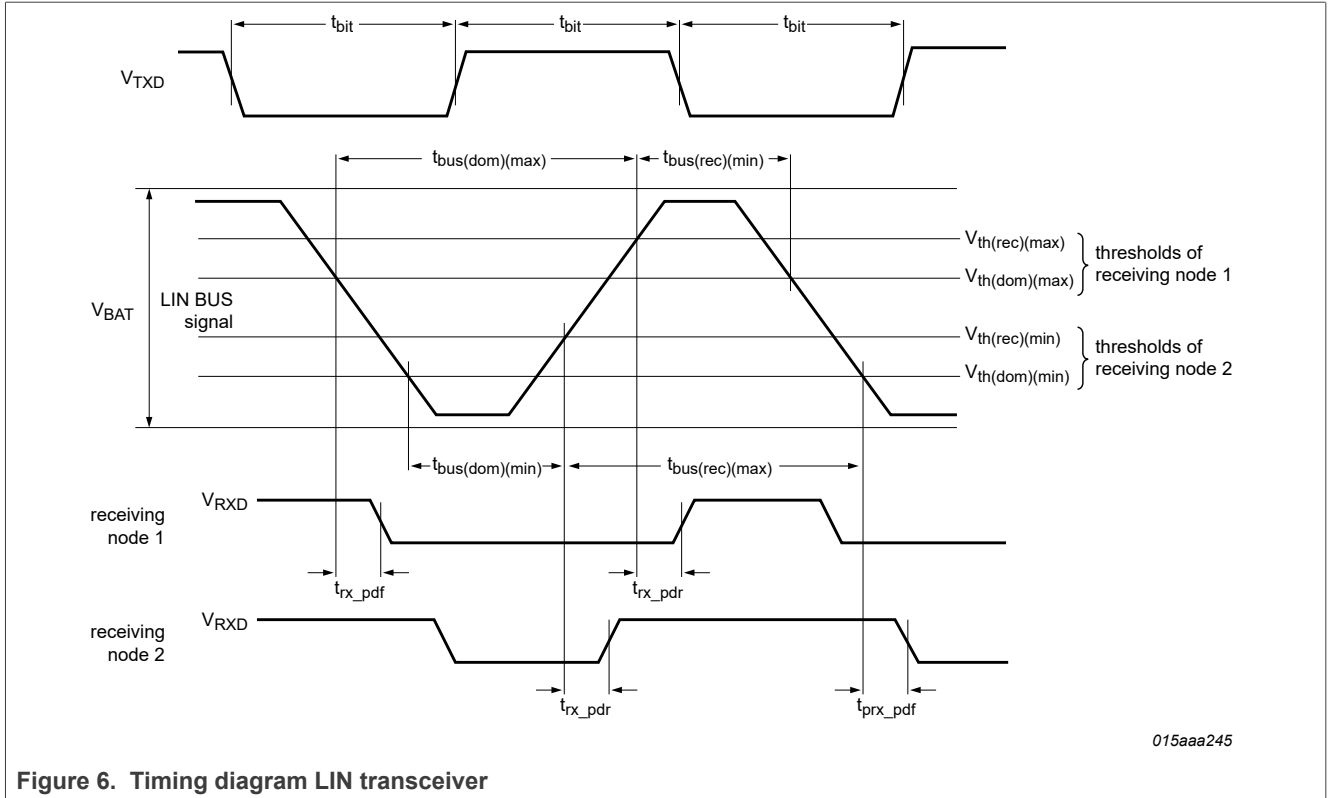

Figure 6. Timing diagram LIN transceiver
$V_{BAT} = 5.5\text{ V to }18\text{ V}$; $T_{vj} = -40\text{ °C to }+150\text{ °C}$; $R_{L(LIN-VBAT)} = 500\ \Omega$; typical values are given at $V_{BAT} = 12\text{ V}$, see Figure 6, unless otherwise specified; all voltages are defined with respect to ground.^[1]
$V_{BAT} = 5.5\text{ V to }18\text{ V}$; $T_{vj} = -40\text{ }^{\circ}\text{C to }+150\text{ }^{\circ}\text{C}$; $R_{L(LIN-VBAT)} = 500\ \Omega$; typical values are given at $V_{BAT} = 12\text{ V}$, see Figure 6, unless otherwise specified; all voltages are defined with respect to ground.^[1]
- [3] $\delta 1, \delta 3 = \frac{t_{bus(rec)(min)}}{2 \times t_{bit}}$. Variable $t_{bus(rec)(min)}$ is illustrated in the LIN timing diagram in Figure 6.
- [6] $\delta 2, \delta 4 = \frac{t_{bus(rec)(max)}}{2 \times t_{bit}}$. Variable $t_{bus(rec)(max)}$ is illustrated in the LIN timing diagram in Figure 6.